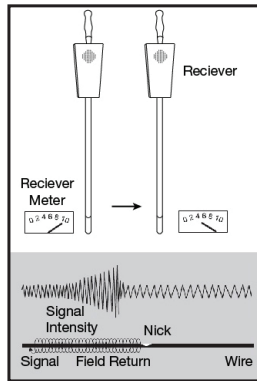

FIGURE 4: Locating Wire Nick
To find wire nicks, continue along the path as previously described, tracking the null sound at the wire and the tone sounds along the sides. At some point the tone to either side of the null will weaken over the course of a short area. At this point, return to the point where the last strong signal was detected, and place the receiver tip on the ground approximately six (6) inches to one side of the null. Mark your null path if necessary. Adjust the sensitivity knob down until the meter reads just below 10 and move the receiver down the line, maintaining the 6-inch distance from null. Pay close attention to the meter reading as you move along the path—once you pass the wire nick the meter will fall off rapidly. (Refer to Figure 4)